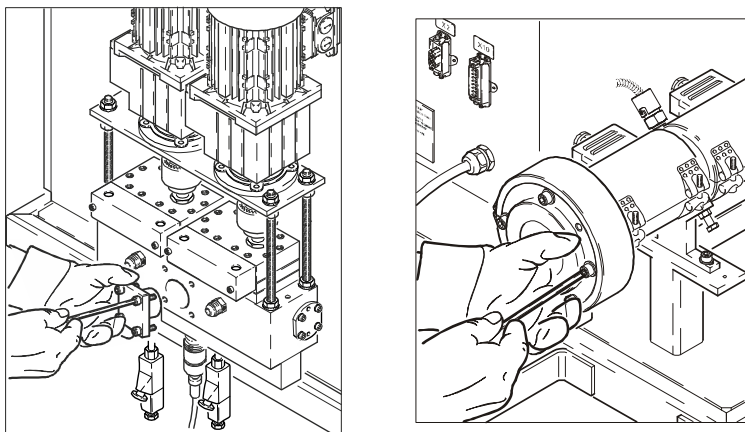

Fig. 7-2 Left illustration with flange-mounted metering station; right without
6. **Fig. 7-2 left:**
Fig. 7-2 right:
18. With metering station. Fig. 7-2 left: